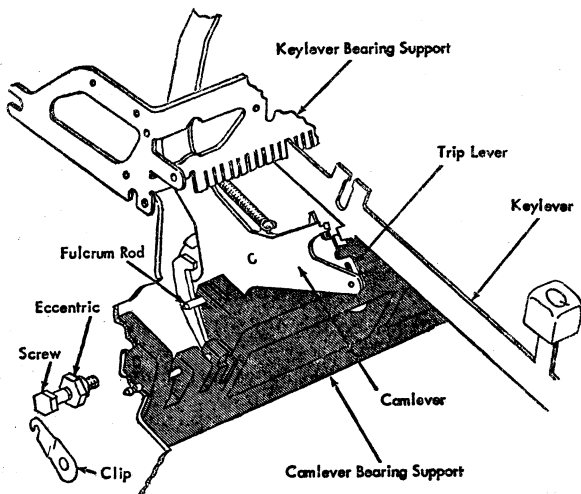

Figure 4. Keylever Bearing Support
The keylevers are mounted in a redesigned keylever-bearing support and fulcrum on a heavier fulcrum rod held by formed lugs in the keylever-bearing support. The assembly is mounted to the side frames and is adjustable in order to obtain proper keylever to trip lever clearance (Figure 4).
2. KEYLEVER BEARING SUPPORT. Adjust by positioning the keylever-bearing support so that the keylevers trip the cams when the keylever is $\frac{1}{32}$ " plus or minus $\frac{1}{64}$ " from the bottom of the keylever guide-comb (Figure 4).